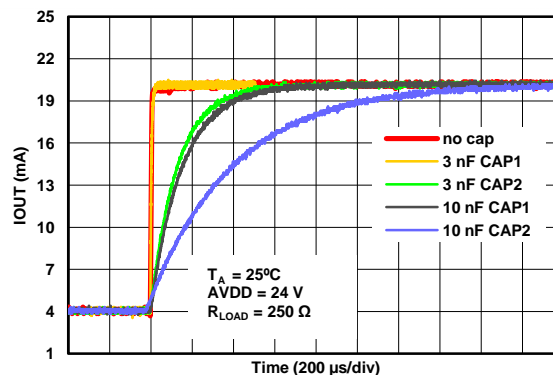
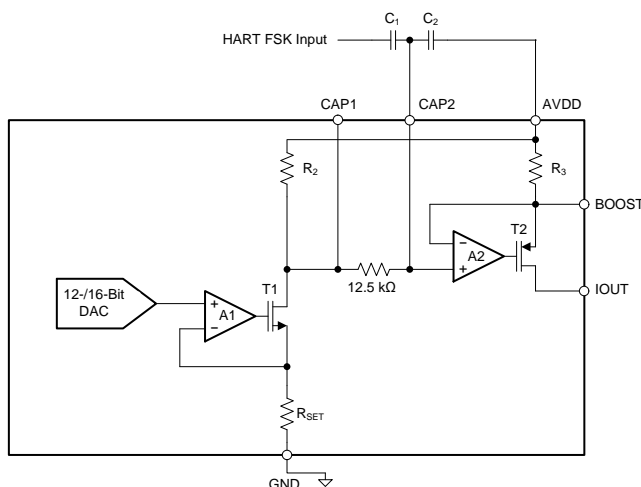

Figure 89. IOOUT vs Time for Different Cap Values on CAP1 and CAP2
Figure 94. Implementing HART on IOUT Using the CAP2 Pin
The QFN package provides access to internal nodes of the circuit as shown in Figure 94. Capacitors can be placed on these pins and AVDD to form a filter on the output current, reducing bandwidth and the slew rate of the output. However, to achieve large reductions in slew rate, the programmable slew rate can be used to avoid having to use large capacitors. Even in that case, the capacitors on CAP1 and CAP2 can be used to smooth out the stairsteps caused by the digital code changes as shown in Figure 89. However, note that power supply ripple will also couple into the part through these capacitors.
The first method of implementing HART is to couple the signal through the CAP2 pin, as conceptualized in Figure 94. Note that this pin is only available in the QFN-40 package.
In Figure 94,  $R_3$  is nominally 40  $\Omega$ , and  $R_2$  is dependent on the current output range (set by the RANGE bits) as described below:
1. As is seen in Figure 94, CAP2 is directly connected to the input of the final IOUT amplifier. Any noise or unwanted ac signal routed near the CAP1 and/or CAP2 pins could capacitively couple onto internal nodes and affect IOUT. Therefore, with the QFN package, it is important to avoid routing any digital or HART signal trace over the CAP1 and CAP2 traces.